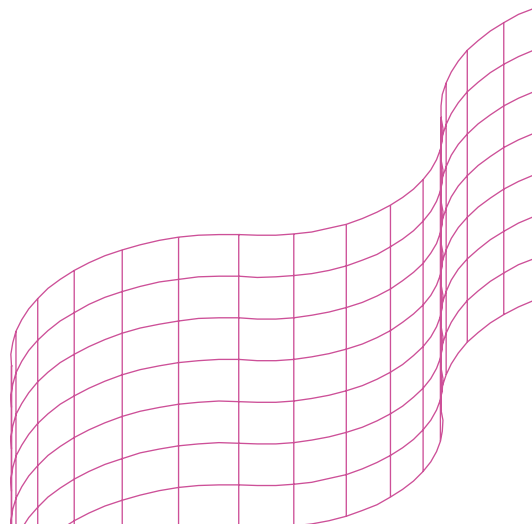

Fig. 14.32 First example – 3D Surface
2. In the **ViewCube/Isometric** view, call the **Extrude** tool from the **Home/Modeling** control and extrude the polyline to a height of **80**. The result is shown in Fig. 14.32.